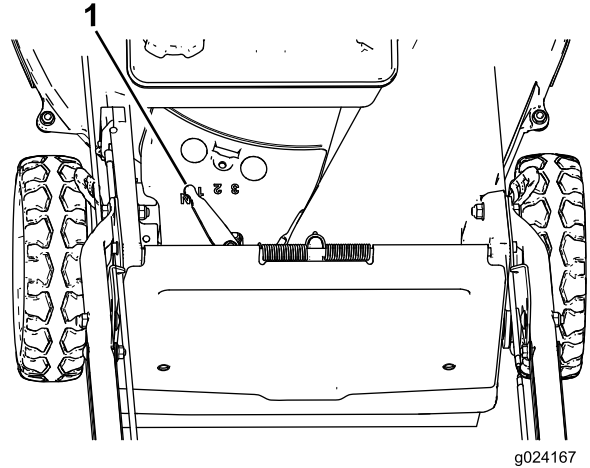

Figure 19
This machine has 3 ground speeds: 1 (slow), 2 (medium), and 3 (fast); it also has a Neutral (N) position. The self-propel-drive lever is located below and behind the fuel tank (Figure 19).